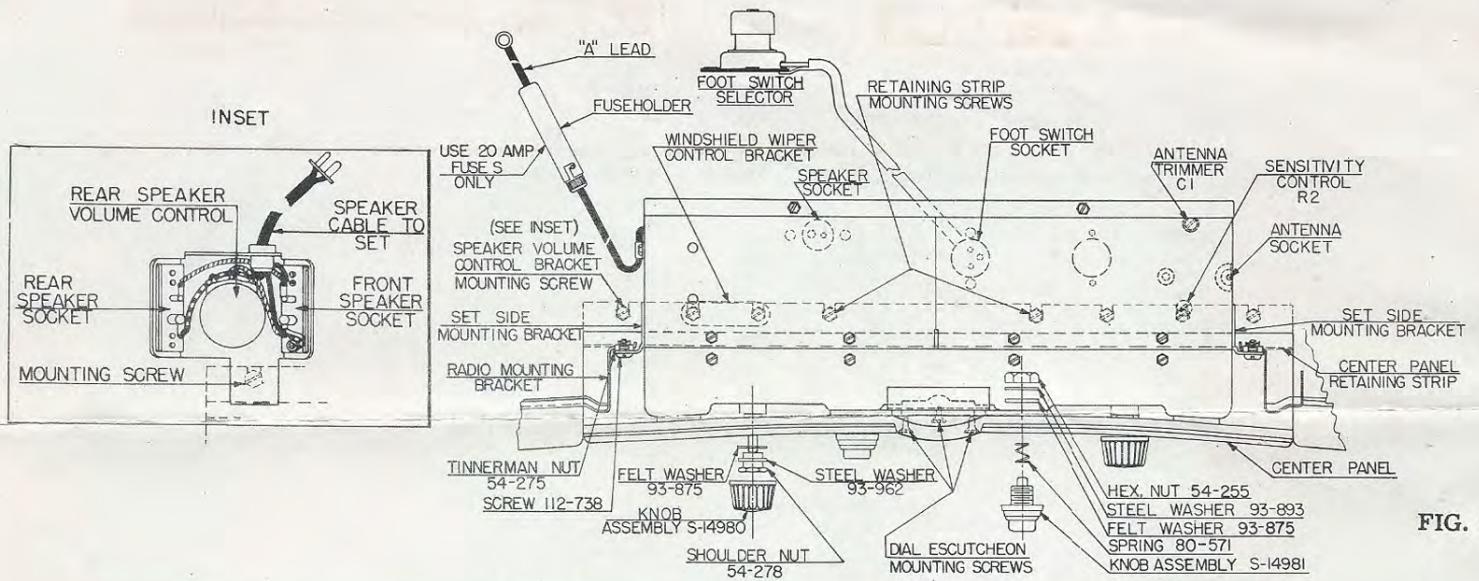

FIG. 2
1. Loosen all the 8/32 hex-head retaining strip mounting screws that hold the center panel retaining strip, and the windshield wiper control bracket in place. (Fig. 2)
3. Remove the center panel by pulling it forward and downward. (Fig. 2)
4. Clip the four tinnerman nuts #54-275 (supplied in the installation kit) over the four holes in the radio mounting brackets on the car. (Fig. 2)
10. Place the tone control knob assembly #S-14981 and the station selector knob assembly #S-14981 into the two holes on each side of the dial escutcheon. Place the button return springs #80-571 over the shafts, and fasten the assemblies to the center panel with the felt washers #93-875, the steel washers #93-893 and the hex nuts #54-255. (Fig. 2)
11. Replace the center panel by hooking it under the panel retaining strip and placing it over the volume and tuning control shafts. (Fig. 2)
12. Assemble felt washer #93-875, steel washer #93-962 and shoulder nut #54-278 on both volume control and tuning control shafts (Fig. 2). Then install volume and tuning knobs. Tighten set screws.
1. Remove the 8/32 hex-head screw which is to the left of the windshield wiper control bracket, from the panel retaining strip (Fig. 2).
2. Using the same screw, mount the rear seat speaker volume control and bracket assembly S-15189 (Fig. 2).
10. Dress the speaker cable over the top of the kick pad, behind the instrument panel and insert the plug of the speaker cable into the socket of the rear speaker volume control and bracket assembly S-15189 (Fig. 2).
7. Insert the plug end of the rear extension speaker cable, located near the top of the left kick pad, into the socket of the volume control and bracket assembly (Inset - Fig. 2) Rotating the knob of the control and bracket assembly #S-15189 changes the volume of the rear speaker. The volume of both the front and rear speaker is changed by the volume control knob on the receiver (Fig. 1).
8. Plug antenna cable into antenna socket of set. (Fig. 2)
IMPORTANT: Turn the receiver on and allow it to operate for approximately 15 minutes. Tune in a weak station at approximately 1200 Kc. Adjust the antenna trimmer condenser (see Fig. 2) with a small screw driver for maximum signal. After receiver is installed, remove trim plate and adjust the black cardboard sleeve over the pilot light so the slot in the sleeve directs the light straight down and on the dial pointer, not on the dial scale background. Replace trim plate.